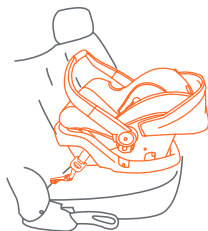

Fig. 49-1
- 1. Safety Seat with Base:** Make sure the vehicle is parked on level ground. Lock the Safety Seat onto the Base and check that the Safety Seat is level side to side on the vehicle seat (Fig. 49-1).